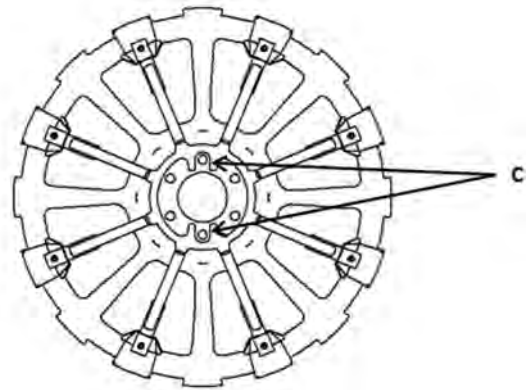

Figure 7-12: Center-Mount Wheel Filler Hole Alignment
NOTE: If bolts (B) are removed, they must be reassembled in holes (C) shown below in Figure 7-12. The bolts must line up exactly in line with the opposite spokes of the lifter wheels or they will not line up correctly on the wheel fillers.
2. Fasten with a bolt and nut as shown in Figure 7-12.